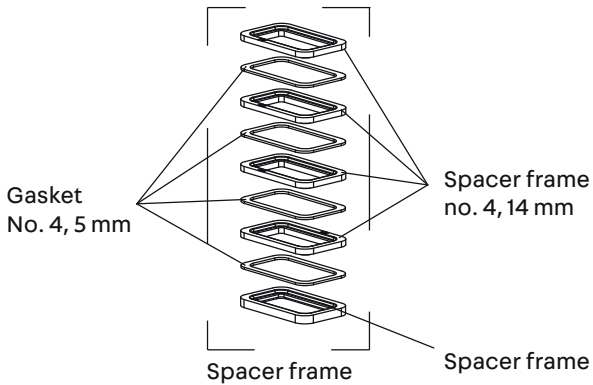

Figure 5-1
5. Before installing the air duct assembly for the interior unit of the caravan air-conditioning system, the spacer frame assembly must be put together according to the thickness of the vehicle roof. Use an appropriately sized gasket and spacer frame assembly according to the simulated installation. Fix the gasket and spacer frame assembly in place with double-sided adhesive tape (provided by the user) (see Fig. 5-1, 5-2).